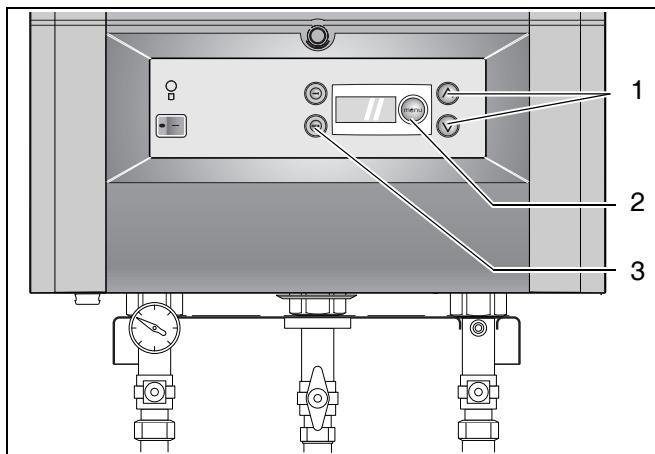

fig. 6 DBA – control panel
- Press E button (see fig. 6, item 2) once then adjust the DHW temperature to the desired temperature (40 °C - 60 °C) using the C and D keys (see fig. 6, item 1). Factory setting is 48 °C.
- Press the E button (see fig. 6, item 2) twice. The current setting blinks.
- Press E button (see fig. 6, item 2) three times then adjust the flow temperature to the desired temperature (30 °C – 80 °C) using the C and D keys (see fig. 6, item 1). Factory setting is 80 °C.